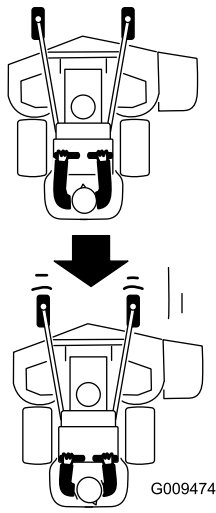

Figure 22
2. Slowly pull the motion-control levers rearward (Figure 22).